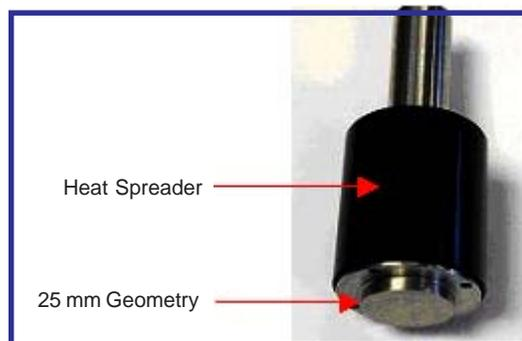
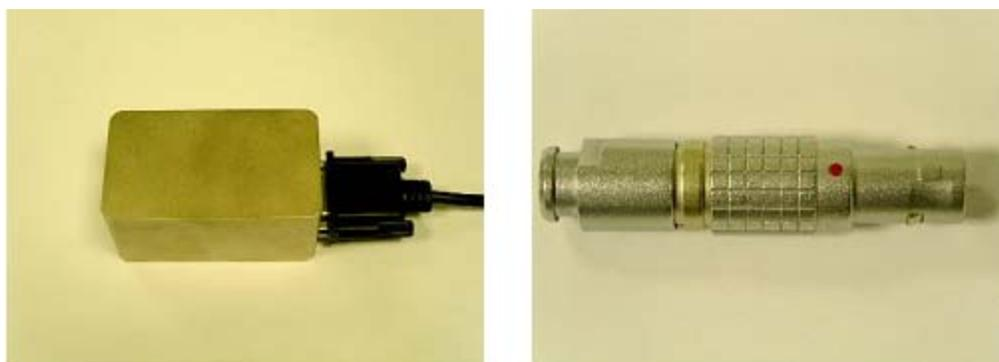

Figure 7.14
Figure 7.18
4. Click **Next**. A window similar to that shown in Figure 7.14 is displayed. Follow the instructions given. The Upper Heated Plate calibration box and zero value plug are shown in Figure 7.18 below.